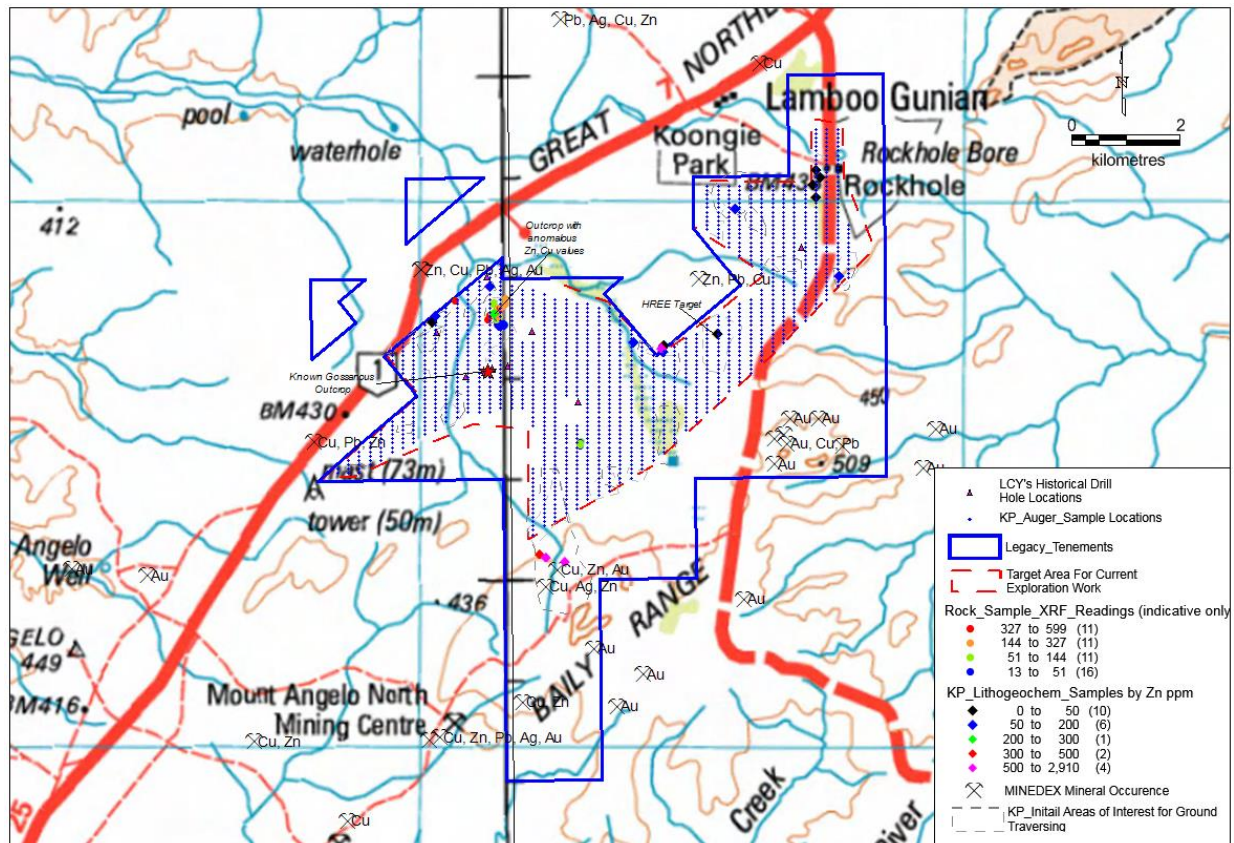

Figure 15: Koongie Park Project: Work Completed and Results to date
- A total of 1,436 location at 200x80m spacing have been sampled (auger soil geochemical samples) in the target area of 25 sq km. (Figure 15). The results of this work identified a number of anomalies for Base metals and REE (ASX announcement on 31 July 2017).
- Geological traversing by the company in the past has identified an additional mineralised outcrop with anomalous values of Zn and Cu. These values were measured by using hand held XRF (portable XRF) unit and are indicative only and used in project as an additional tool to further assist the visual assessment of rock samples in the field. The outcrop is approximately 30-50m wide and 400-500m long. This outcrop is located approximately 1.5km ENE of the Sandiego deposit and 800m N of the known gossanous outcrop with in the tenement area (Figure 15).
- Ground traversing across all the Base Metals and REE anomalies outlined from the latest augur sampling program in the project area identified a number of oxidised/gossanous outcrops for base metals (with Zn values ranging from 50 ppm to 2000 ppm) and rocks enriched in heavy rare earth minerals (~1000 ppm Y) - Figure 15.